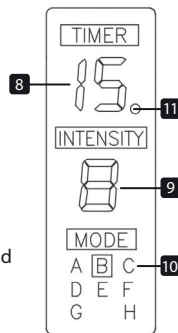

Fig.2
2.3 | Display indicators (Fig. 2)